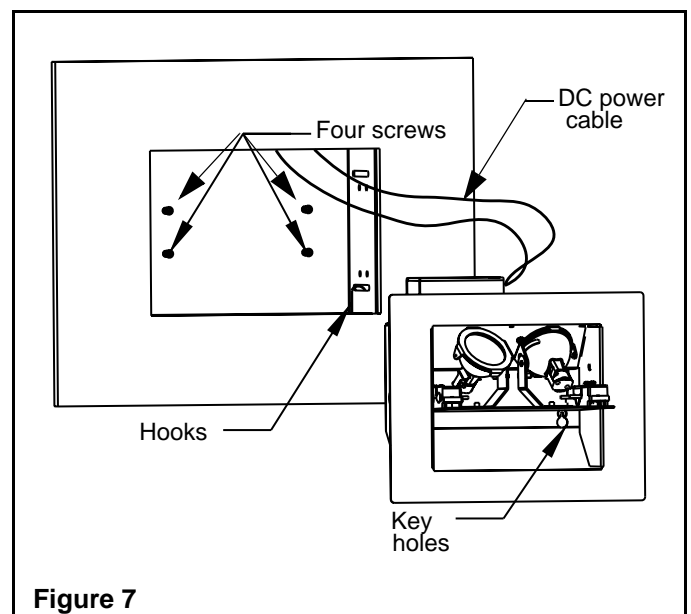

Figure 7
7. Hold the lamp module. Disengage the hooks and leave them hooked in the wall, on the “U” bracket, for future utilization (see Figure 7).